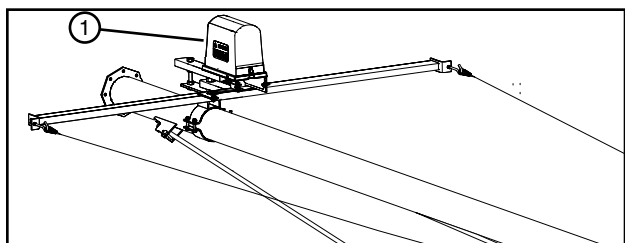

Figure 26-2 Standard Rainger Cart
- If Rainger linear center or end feed cart, the side load safety box is located on the first span pipe. See Figure 26-2.